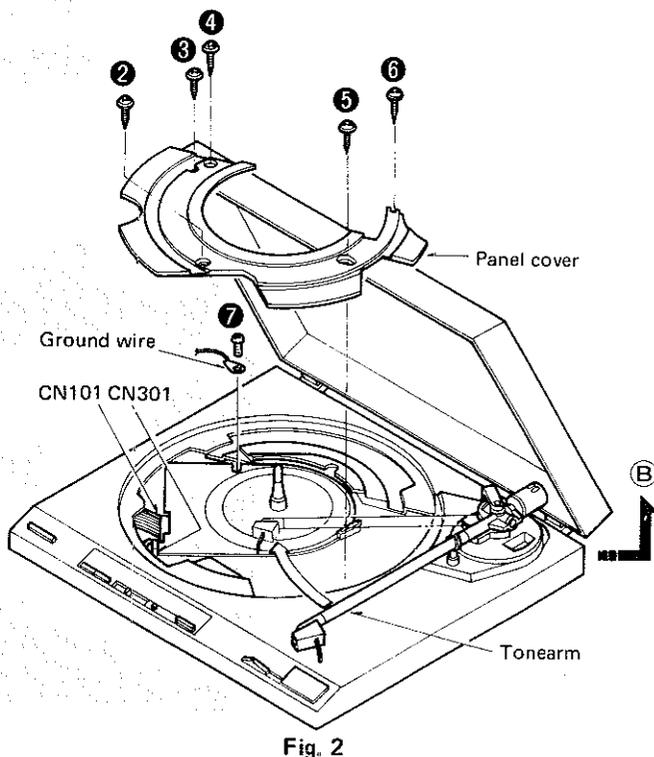

Fig. 2
3. Remove the 5 panel cover setscrews (Fig. 2 : ② ~ ⑥) and the panel cover.
5. Remove the ground wire setscrew (Fig. 2 : ⑦) and ground wire.
10. Remove the tonearm from the arm rest and bring the tonearm to the center spindle as shown in Fig. 2.
11. Then, lift the cabinet in the direction of the arrow (B).